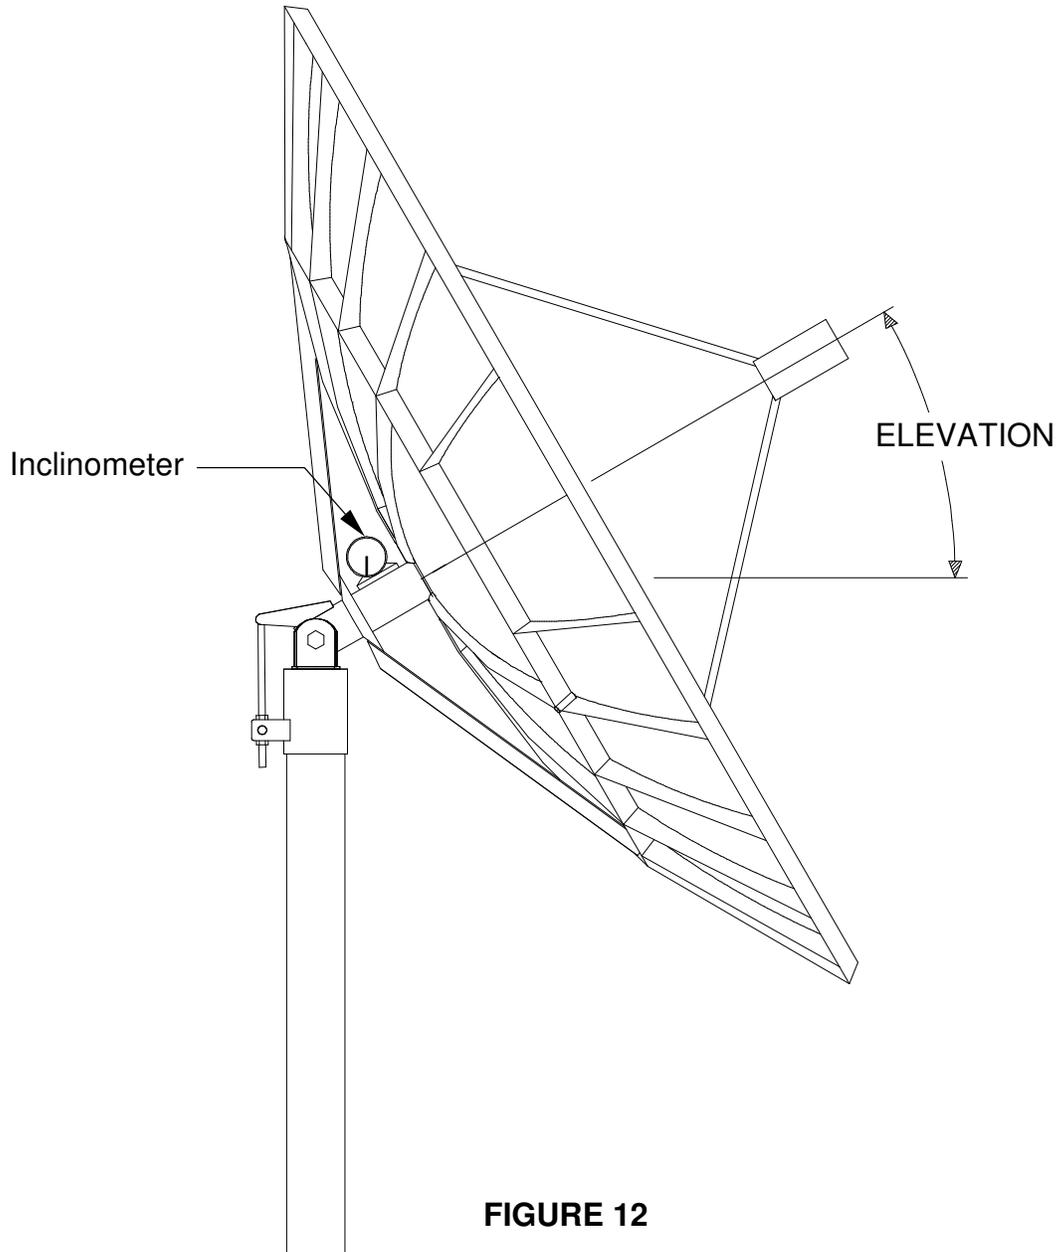

FIGURE 12
1. Place an inclinometer on the hub as shown in figure 12.